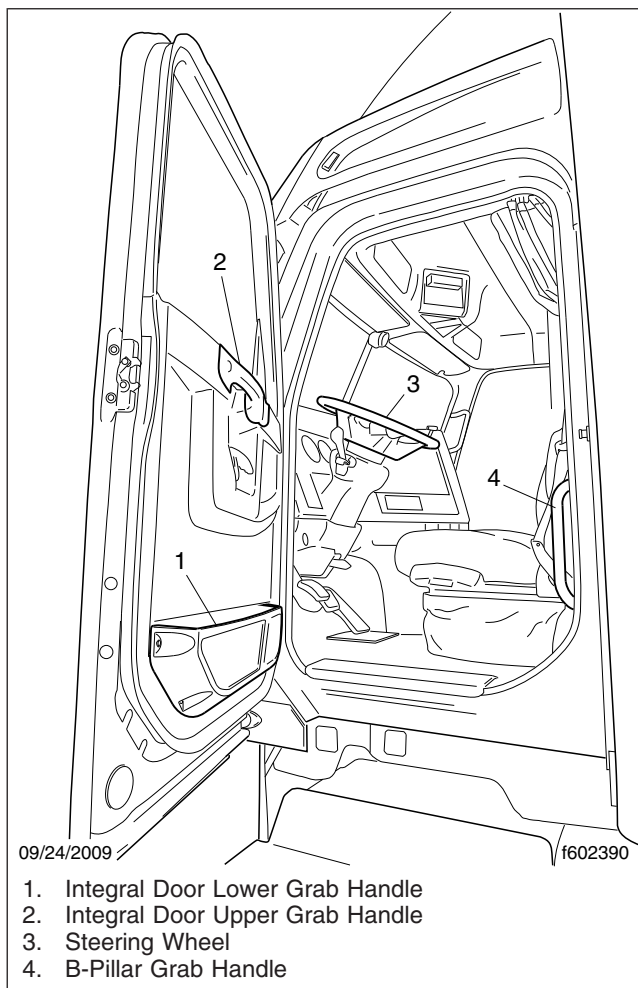

Fig. 2.3, Driver-Side Steps and Grab Handle
2. Using both hands, grasp the grab handle that is on the B-pillar, or use your left hand on the integral door lower grab handle. See **Fig. 2.3**. Reach up as far as is comfortable.